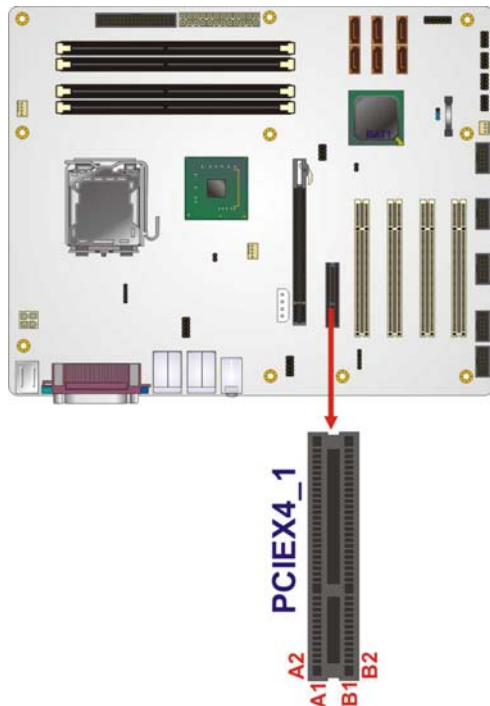

Figure 3-11: PCIe x4 Connector Locations
- CN Location:** See **Figure 3-11**